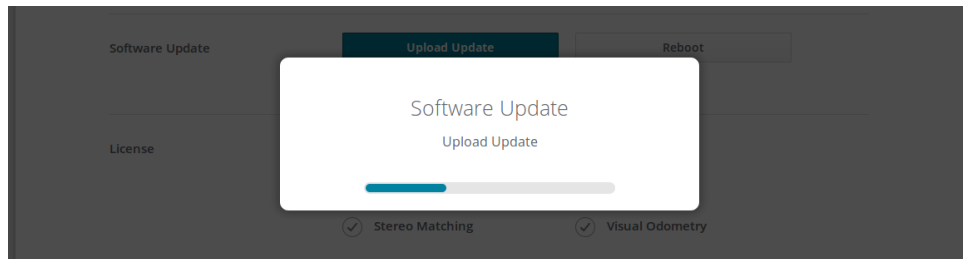
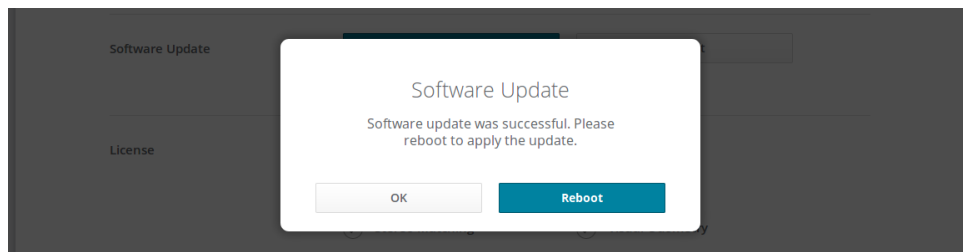

Fig. 9.2: Software update progress bar
Fig. 9.3: Software update rebooting screen
**Note:** Depending on the network architecture and configuration the upload may take several minutes. During the update via the Web GUI, a progress bar indicates the progress of the upload as shown in Fig. 9.2.
**Note:** Depending on the web browser, the update progress status shown in Fig. 9.2 may indicate the completion of the update too early. Please wait until the context window shown in Fig. 9.3 opens. Expect an overall update time of at least five minutes.
After having uploaded the new firmware via the Web GUI, a context window is opened as shown in Fig. 9.3 offering to reboot the device immediately or to postpone it. To reboot the *rc\_visard* at a later time, use the *Reboot* button on the Web GUI's *System* tab.